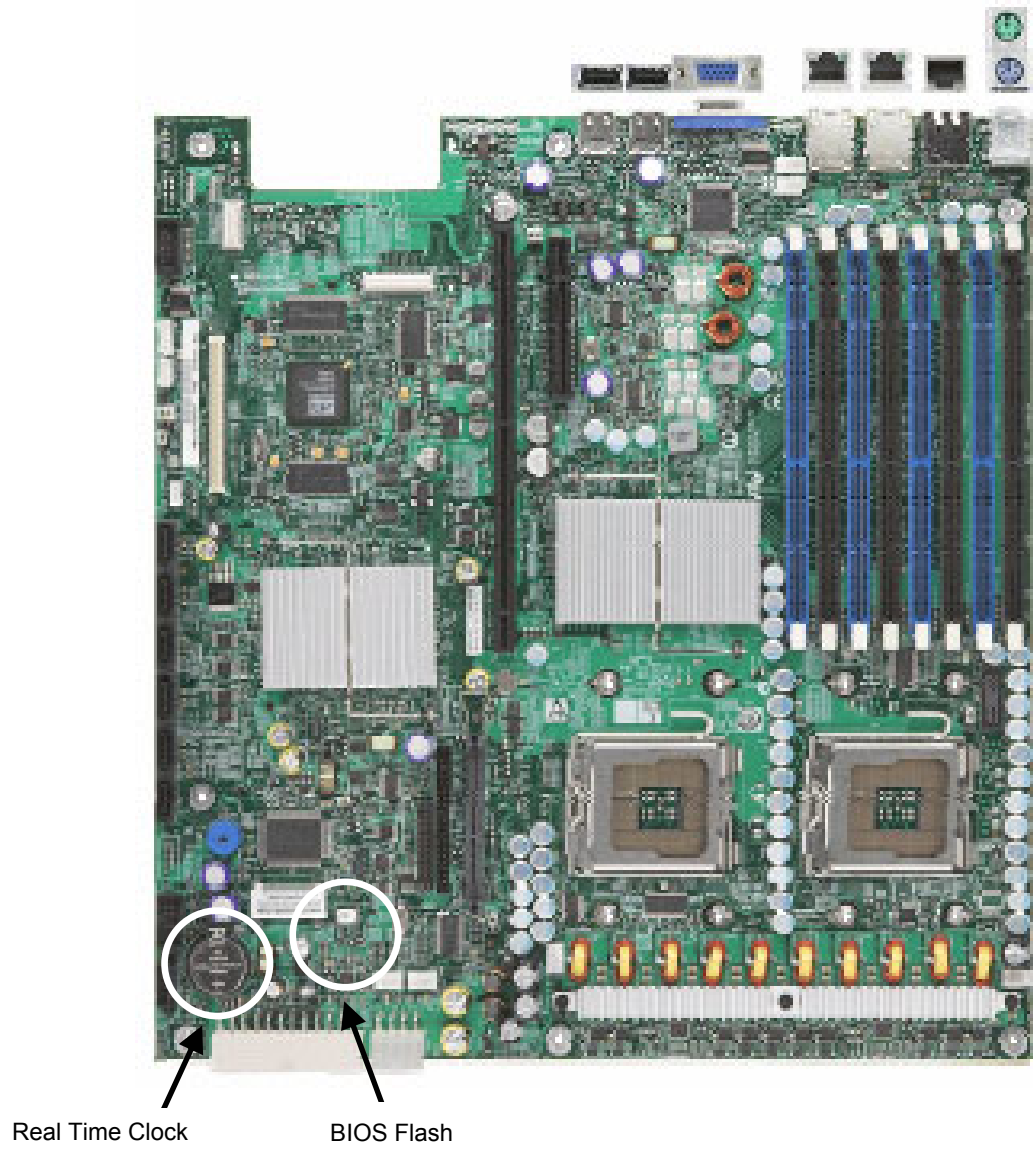

Figure 3. BIOS flash memory and RTC battery locations
3. The battery is located at the left front corner of the server main board; see Figure 3. Remove the battery from its socket.